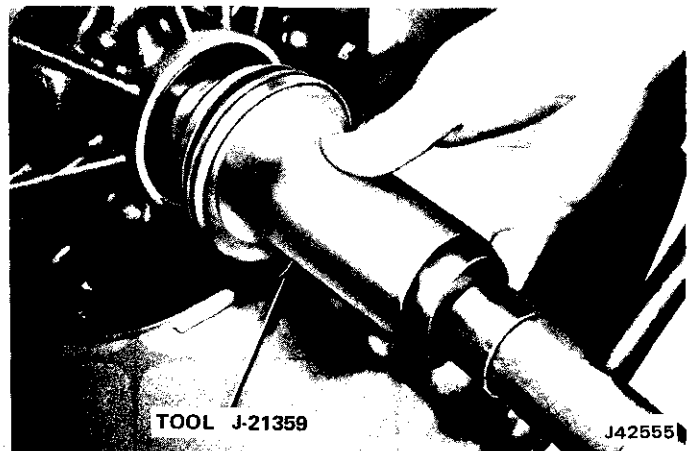

Fig. 2C-155 Oil Pump Seal Installation
(1) Fabricate guide pins by grinding heads from two spare 5/16-18 valve body bolts.
(2) Install guide pins in pump mounting bolt holes of transmission case.
(3) Position oil pump gasket on pump face of transmission case. Use petroleum jelly to retain gasket.
(4) Install pump assembly and all but one pump attaching bolt and washer. Omit bolt and washer from either 5 or 10 o'clock position.
(5) Tighten installed pump attaching bolts to 22 foot-pounds (30 N•m) torque.
(6) Install oil pump seal. Use nonhardening sealer on outside of seal and install seal using tool J-21359 (fig. 2C-155).